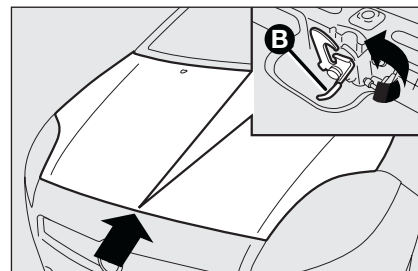

fig. 97
- ☐ pull lever **B-fig. 97** and raise the bonnet.